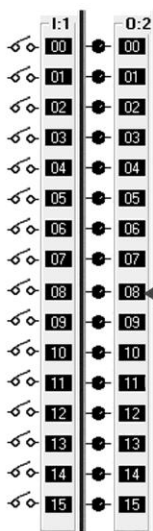

Figure 5-2 I/O module for question 5.
5. The address for the point on the I/O module shown in Figure 5-2 would be 5. _____